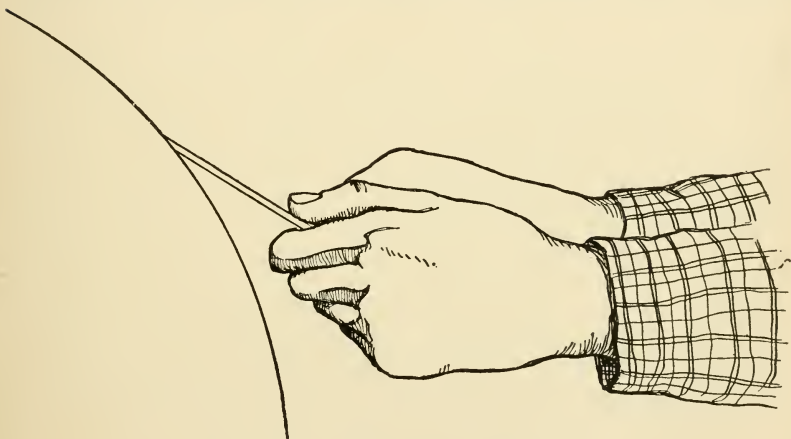

FIG. 35. — Grinding the Plane-iron.
**Plane-irons** are held with both hands, as shown in Fig. 35, and ground the same, except that the corners